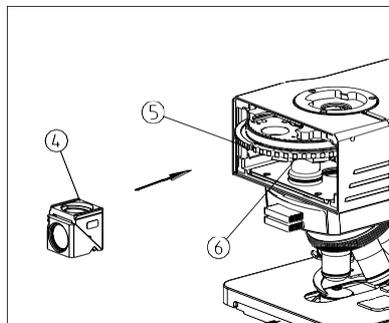

图 5
(2) Choose the fluorescence filter sets④ according to the name plate③ of the fluorescence filter group under the front cover ②.(See Fig.5)
(3) Turn the turntable ⑤ to the circumference with the sequence number 3,insert the filter set with a phragm upward to dovetail groove of the fluorescence filter group and push to the bottom.Tighten the lock screw ⑥.
(4) Repeat the action as above to assemble the other filters.